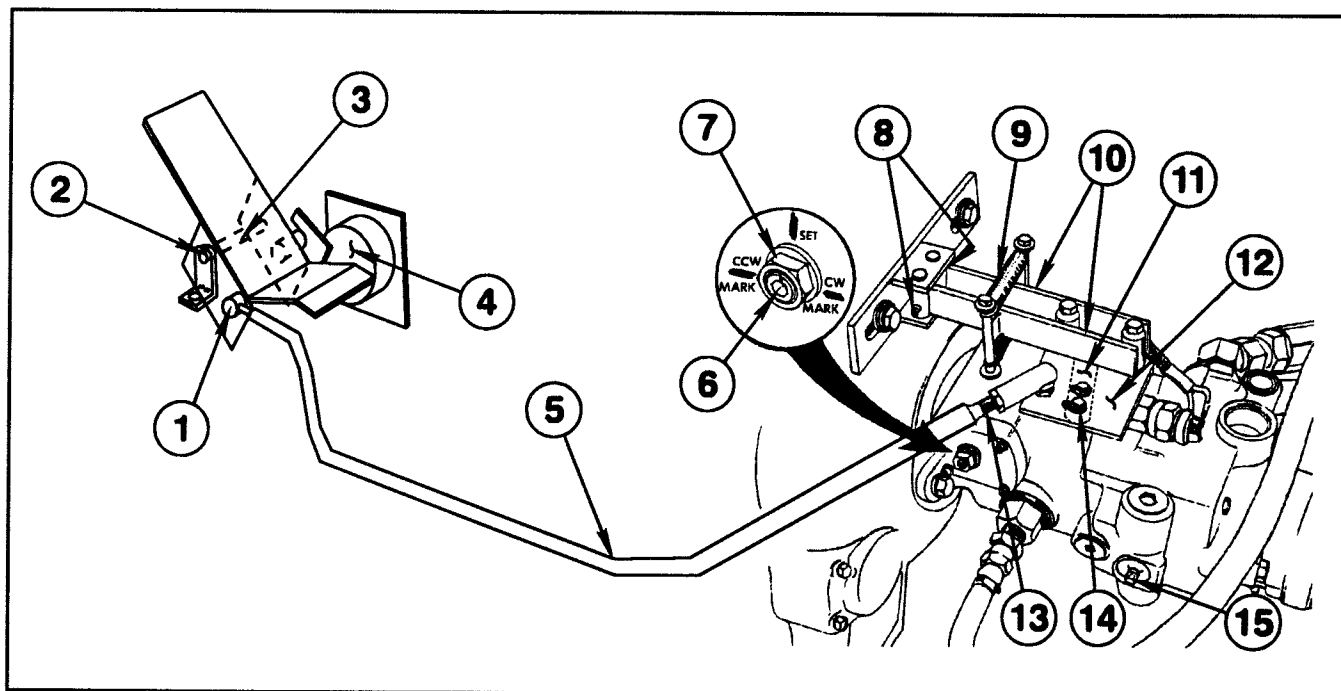

Figure 43
LINKAGE MAINTENANCE (FIG. 43)
It is very important that the foot pedal operate freely and return positively to the NEUTRAL or CENTERED position. Periodic maintenance of the traction pedal requires applying grease to the grease fittings on the linkage control arms as shown in Fig. 43.
LINKAGE TROUBLESHOOTING (FIG. 43)
TRACTION PEDAL / TRANSMISSION NEUTRAL ADJUSTMENT (Fig.43)
4. Pull both control arms away from the control plate bearings (Fig. 43). When the control plate is adjusted correctly, the control plate **WILL NOT** rotate when the control arms are pulled away.
7. To adjust the control plate, loosen the two control plate mounting bolts, so it allows the control plate to center itself and allows the servo control arm to move independently as shown in Fig. 43 Retighten the two control plate mount bolts and verify the proper adjustment by pulling both control arms away from the control plate bearings. The control plate **SHOULD NOT ROTATE!** After proper adjustment proceed to STEP 10.